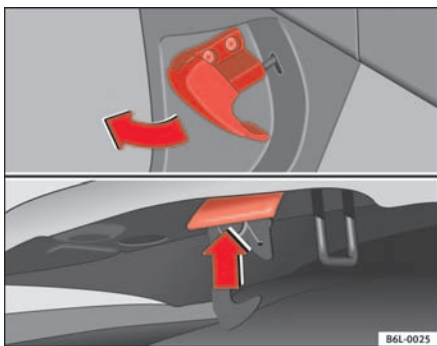

Fig. 120 Arrester hook for bonnet.
- To release the bonnet, pull the lever under the dashboard ⇒ fig. 120 in the direction indicated (arrow). The bonnet will be released by a spring action ⇒ ⚠.